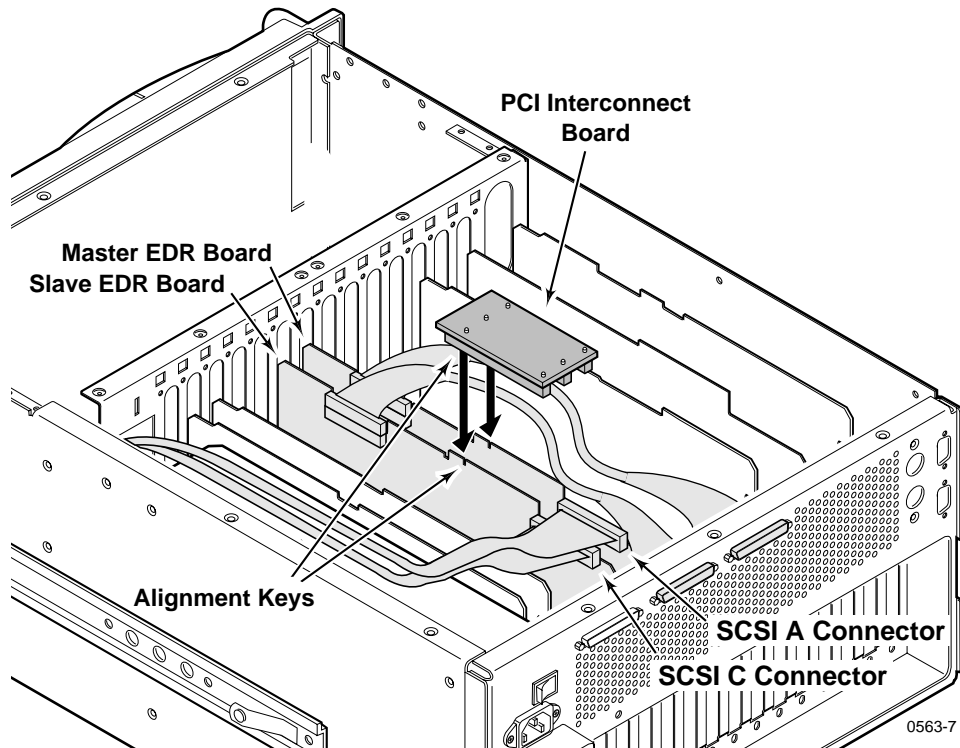

Figure 10. PCI Interconnect Board Removal
4. Remove PCI Interconnect board, if installed, by pulling it straight up and off the boards. Refer to Figure 10 to help identify the PCI Interconnect board. Your system may use a 5-slot PCI Interconnect.
6. Noting the connector keying, reinstall the PCI board so that the **MASTER** connector on the PCI board is connected to the Master EDR board. (Refer to Figure 10.)